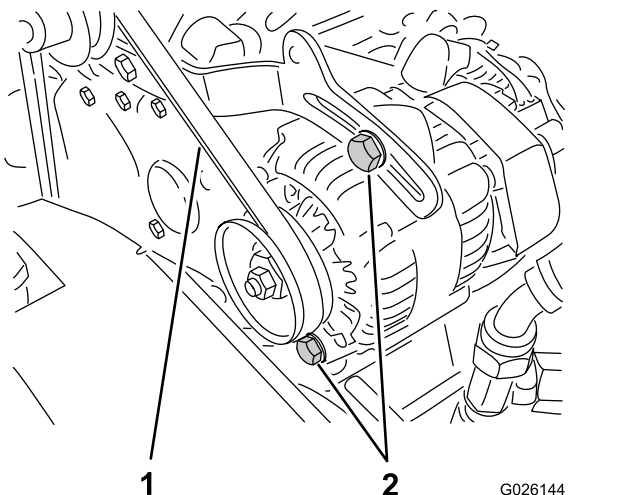

Figure 67
2. Check the tension by pressing the belt at mid span between the crankshaft and alternator pulleys with 10 kg (22 lb) of force (Figure 67).
- A. Loosen the 2 alternator-mounting bolts (Figure 67).
- B. Using a pry bar, rotate the alternator until the proper belt tension is attained, then tighten the mounting bolts (Figure 67).